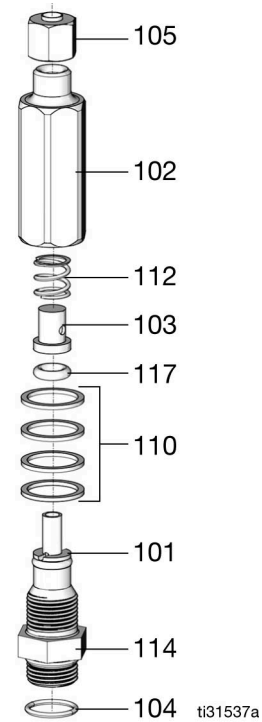

FIG. 43
Grease injectors provide precise lubrication to each grease point in the system. If an injector is not producing the correct amount of lubricant for a specific location on the vehicle, or if a replacement injector of correct size is not available, output spacer washers (110) can be installed to adjust the injector output volume (FIG. 43, page 56).
- Use a 5/8 in. wrench to loosen and separate the injector body (102) from the valve assembly (114). Be careful not to misplace or damage the spring (112), retainer cap (103), and o-ring (117) (FIG. 43, page 56).
- Add spacers (110) to increase output volume.
- Remove spacers (110) to decrease output volume.
- Reassemble the injector valve assembly. Make sure that all parts removed during disassembly are reinstalled in the correct order as shown in FIG. 43 (page 56). Use a 5/8 in. wrench to tighten, using only enough force to seat the output spacers firmly (110). Torque to 8 ft-lb +/- 2 (10.8 +/- 2.7 N•m).
- Install injector (101) onto manifold (119/120). Slide a deep well socket over the injector and aligned with the hex nut flats (114) (FIG. 43, page 56). Torque to 8 ft-lb +/- 2 (10.8 +/- 2.7 N•m).